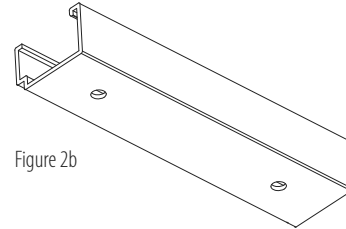

Figure 2b
- If not installed (Figure 2b) secure Quick Lock connectors into profile side installation rail with provided hardware. Ensure Quick Locks are in the same orientation as the STYX profiles will be positioned.